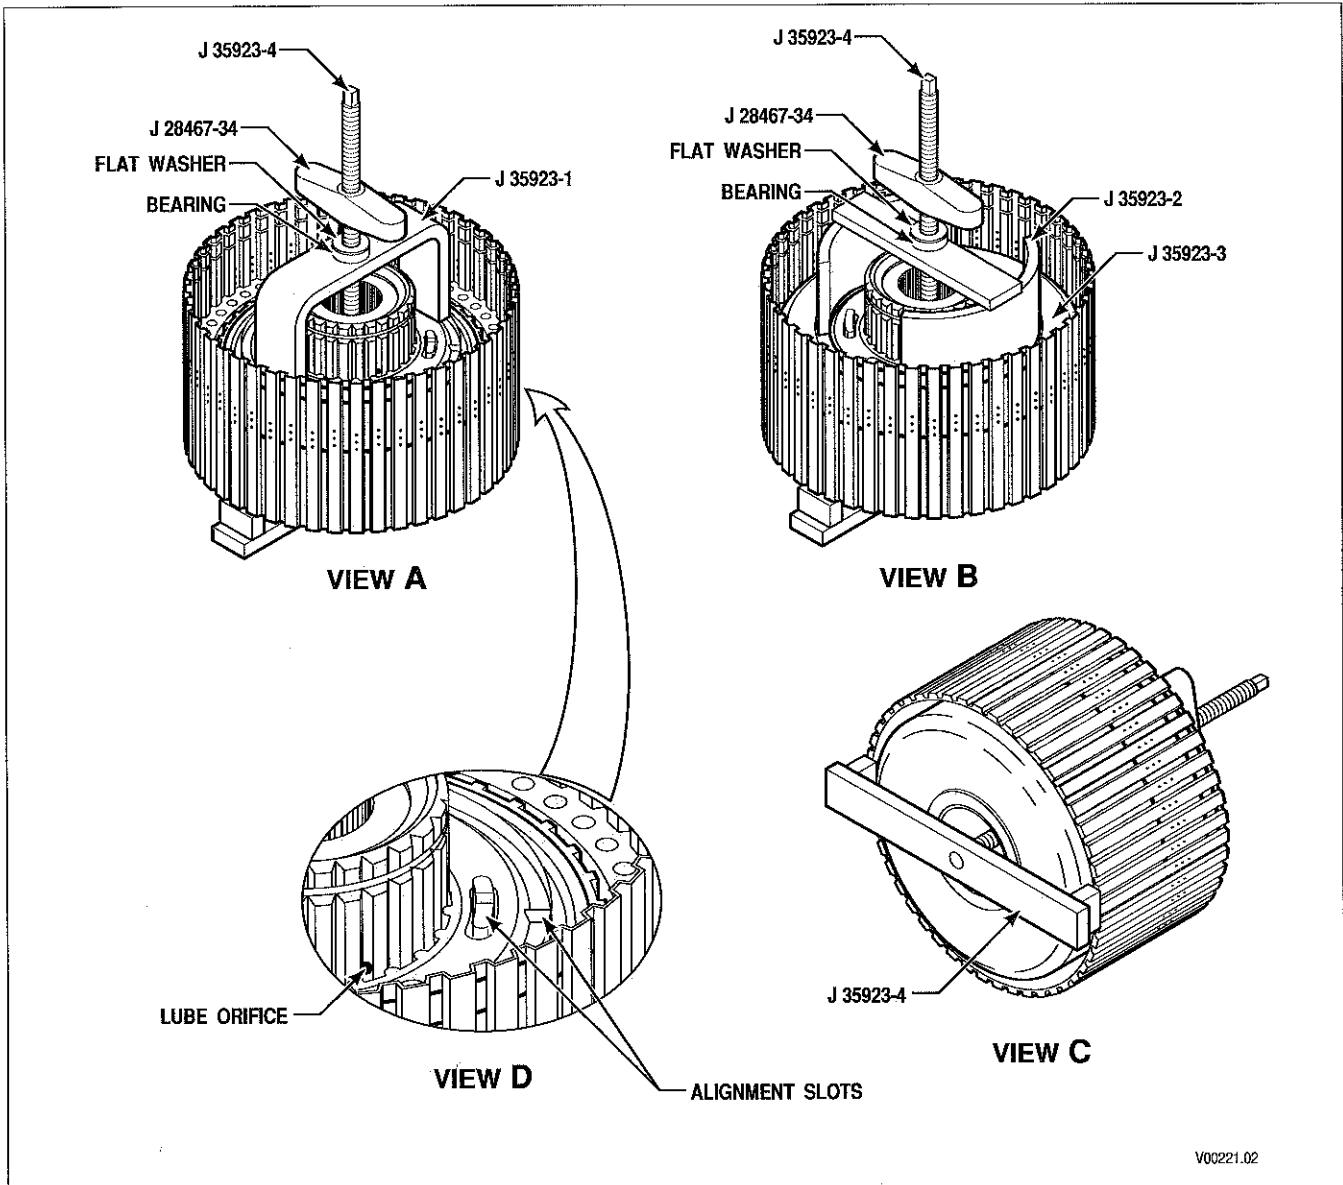

Figure 5-9. Rotating Clutch Assembly/Disassembly
21. Place rotating clutch on tool base J 35923-4 so rotating drum is supported by tool tangs (Figure 5-9, View C). Install J 35923-1 (Figure 5-9, View A), bearing, washer, and handle J 28467-34. Tighten tool, compressing C1 balance piston 26 (Foldout 9,B) and C1 return spring 25. Remove retaining ring 28. Remove tool J 35923-1.
23. Install tools J 35923-3 and J 35923-2 (Figure 5-9, View B), bearing, washer, and handle J 28467-34. Tighten tool and remove retaining ring 22 (Foldout 9,B). Remove tools J 35923-2 and J 35923-3.
13. Place the assembly on tool base J 35923-4 so that the rotating drum is supported by tool tangs (Figure 5-9, View C). Install tools J 35923-3 and J 35923-2 (Figure 5-9, View B), bearing, washer, and handle. Compress C2 spring assembly 21 and install retaining ring 22 (Foldout 9,B). Remove tools J 35923-3 and J 35923-2.